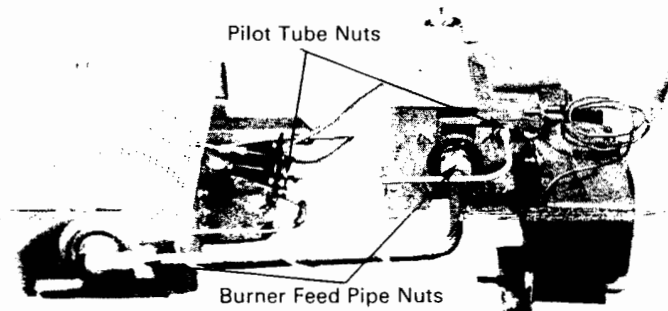
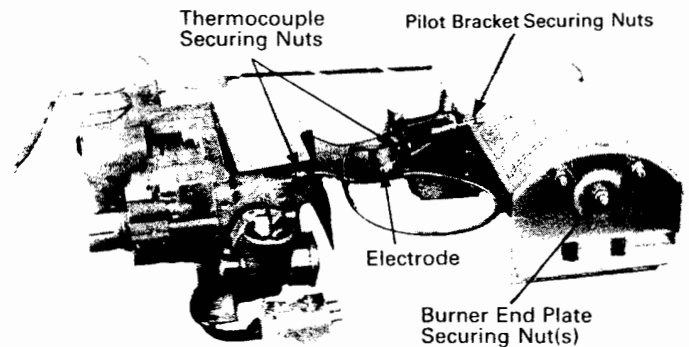

Fig. 19. Burner and Controls (2)
Fig. 18. Burner and Controls (1)
12. Clean the burner as follows; (Fig. 18 and 19).
Thermocouple (Fig. 18)
Spark Electrode (Fig. 18)
Piezo Unit (Fig. 19)
Burner (Fig. 18 and Fig. 19)